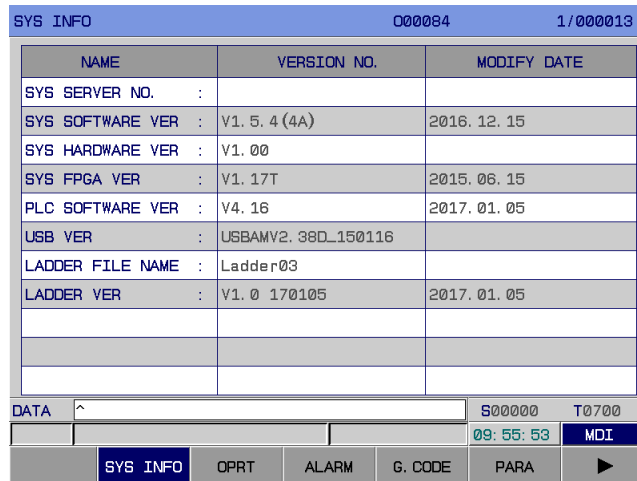

Fig.3-9-1
1. System information interface: On <Help> interface, press [system information] to enter the system information interface, as shown in Fig.3-9-1: